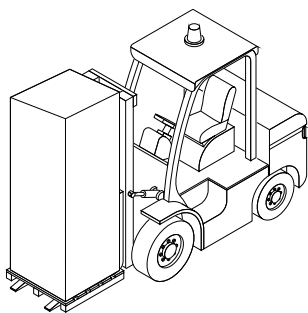

Fig. 4.1
- Handle the packaged machine only with forklift truck or pallet trucks with forks (Fig. 4.1).